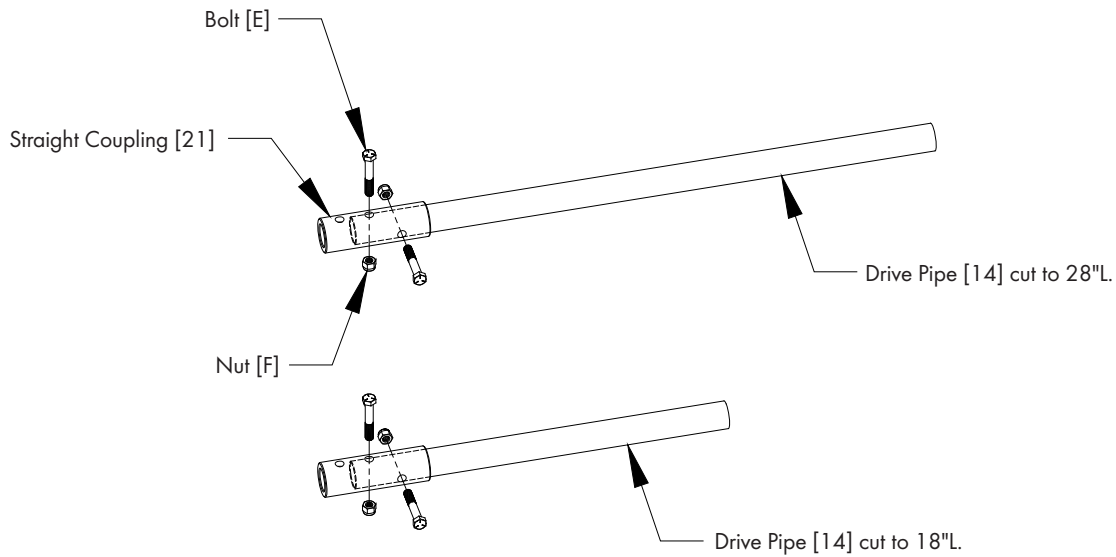

Figure 38
For the 18"L. and 28"L. Drive Pipe [14] cut in the previous step, slide a Straight Coupling [21] over one end of the pipe so that the (2) holes are over the pipe. Then using these holes as a guide, drill (2) pilot holes through the pipe and then drill (2) $1\frac{3}{32}$ " dia. holes through the pipe. Next fasten the Straight Coupling [21] to Pipe using (2) Bolts [E] and Nuts [F]. See Figure 38.